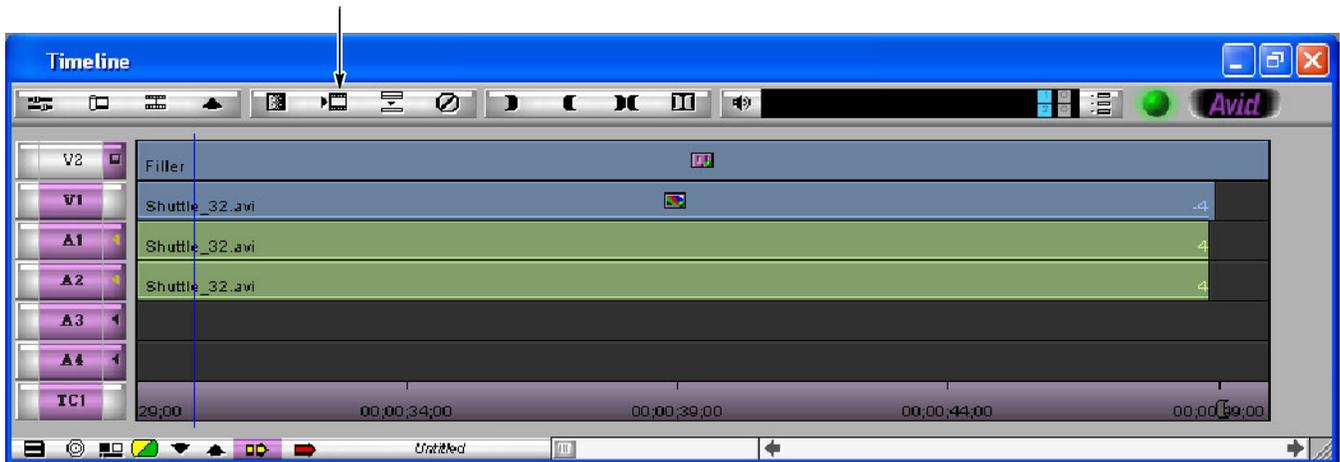

Figure 26: Playing back the timeline using the Avid rendering mode
2. Click the Render Effect button to playback the timeline (see Figure 26).